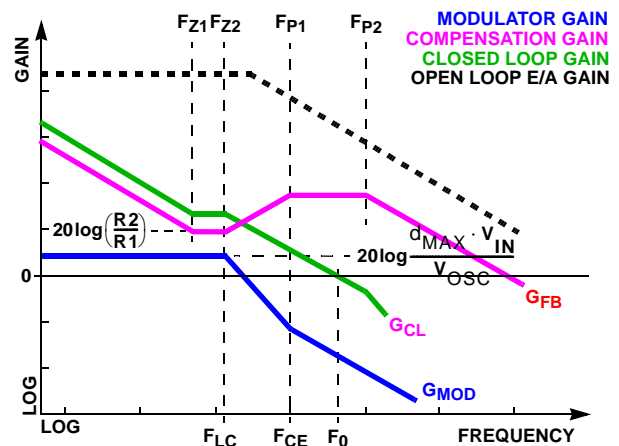

FIGURE 25. ASYMPTOTIC BODE PLOT OF CONVERTER GAIN
Figure 25 shows an asymptotic plot of the DC/DC converter's gain vs frequency. The actual Modulator Gain has a high gain peak dependent on the quality factor (Q) of the output filter, which is not shown. Using the above guidelines should yield a compensation gain similar to the curve plotted. The open loop error amplifier gain bounds the compensation gain. Check the compensation gain at F_{P2} against the capabilities of the error amplifier. The closed loop gain, G_{CL}, is constructed on the log-log graph of Figure 25 by adding the modulator gain, G_{MOD} (in dB), to the feedback compensation gain, G_{FB} (in dB). This is equivalent to multiplying the modulator transfer function and the compensation transfer function and then plotting the resulting gain. A stable control loop has a gain crossing with close to a -20dB/decade slope and a phase margin greater than 45°. Include worst case component variations when determining phase margin. The mathematical model presented makes a number of approximations and is generally not accurate at frequencies approaching or exceeding half the switching frequency. When designing compensation networks, select target crossover frequencies in the range of 10% to 30% of the per-channel switching frequency, F_{SW}.